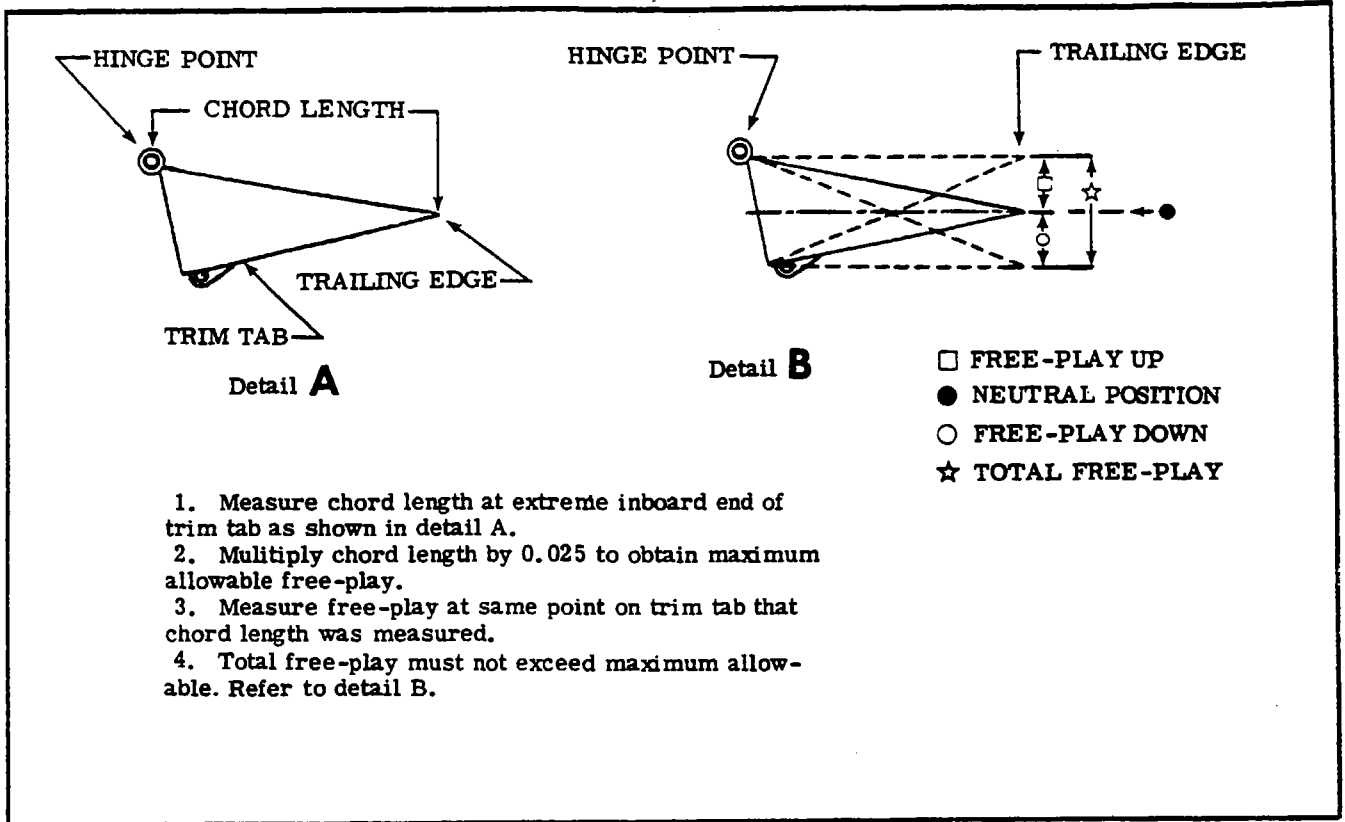

Figure 9-5A. Trim Tab Free-Play Inspection
9-12. TRIM TAB FREE-PLAY INSPECTION. (Refer to figure 9-5A.)
1. Measure chord length of extreme inboard end of the trim tab as shown in detail A, figure 9-5A.
Measure free-play at the same point on trim tab that chord length was measured. Total free-play must not exceed maximum allowable. Refer to detail B, figure 9-5A.